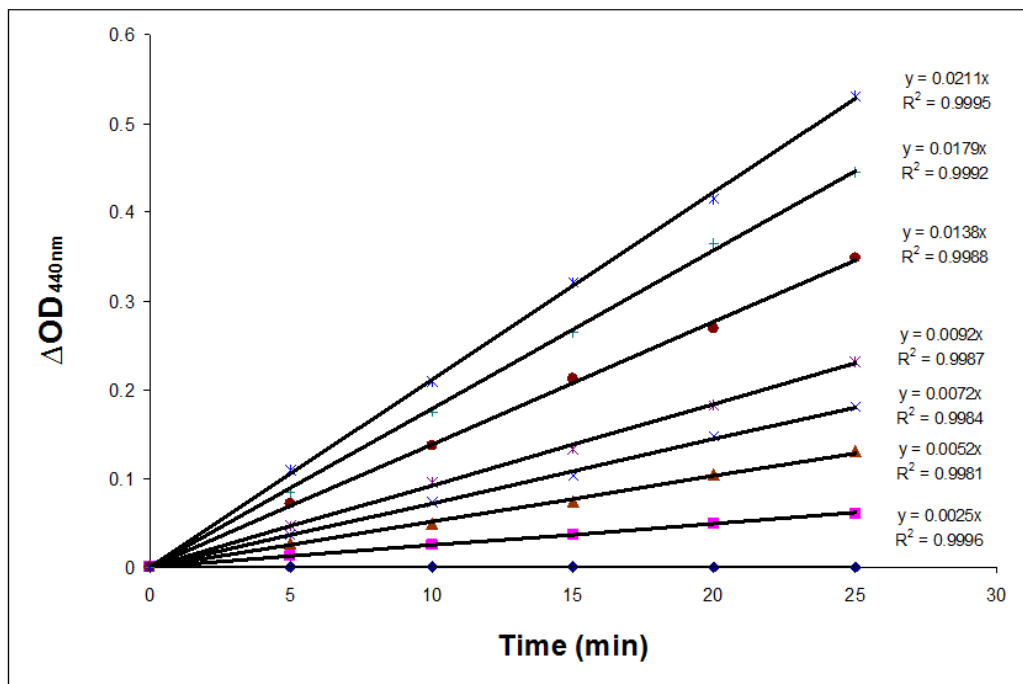

Figure 1. Absorbance change at 440 nm over 25 minutes of seven test samples using this kit.
9. Determine the change in absorbance  $\Delta OD_{440nm}/\text{min}$  by plotting the  $\Delta OD_{440nm}$  value as a function of reaction time to obtain the slope of the linear portion of the curves. Figure 1 shows an example of assaying HAT activity using this kit.
HAT activity of seven cell lysate samples is measured following the procedure of this kit. All samples were diluted 1:8 first, then 10  $\mu\text{L}$  of each diluted sample was measured in a 100  $\mu\text{L}$  final volume. The slope of  $\Delta OD_{440nm}/\text{min}$  of each sample is shown in Figure 1 and Table 1. The calculated HAT activity is shown in Table 1.